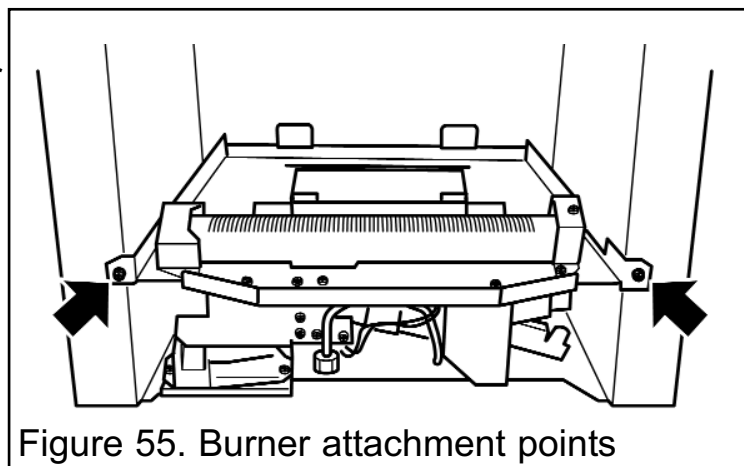

Figure 55. Burner attachment points
4. Detach the burner unit from the convection box by removing two screws (See figure 55).